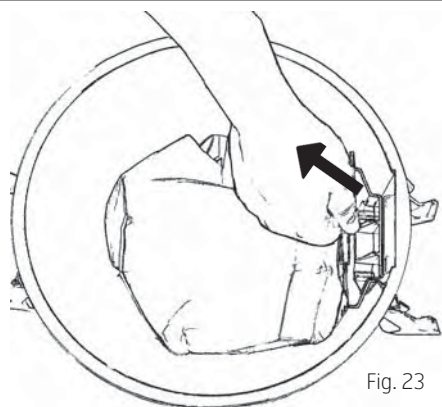

Fig. 23
6. Remove the dust bag by taking hold of the cardboard stiffener and carefully pulling out the card and bag from the container, Fig. 23.